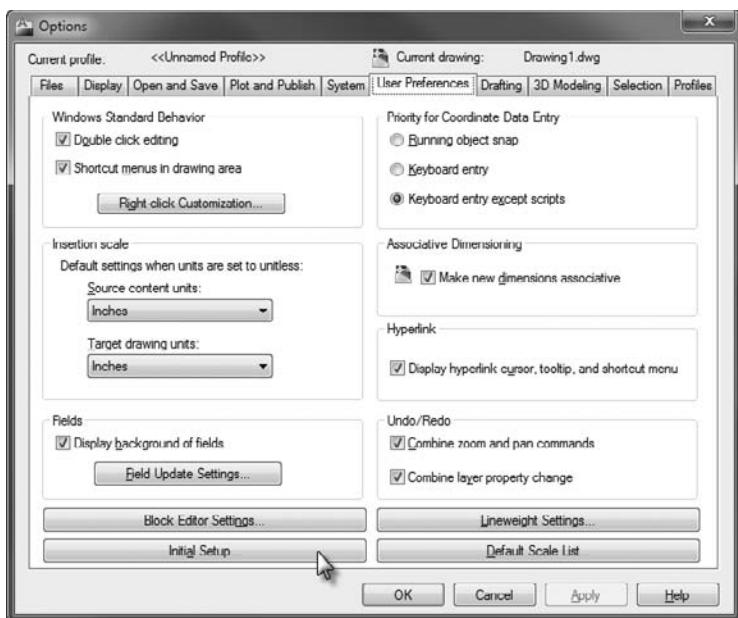

FIGURE 16.1 The User Preferences tab of the Options dialog box
1. If AutoCAD displays the Initial Setup dialog box when you start the program, skip to step 2; otherwise, start the OPTIONS command using the Application Menu > Options. Switch to the User Preferences tab in the Options dialog box that appears (Figure 16.1), and click the Initial Setup button.